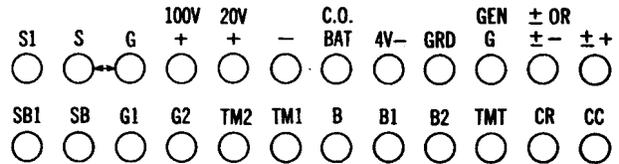
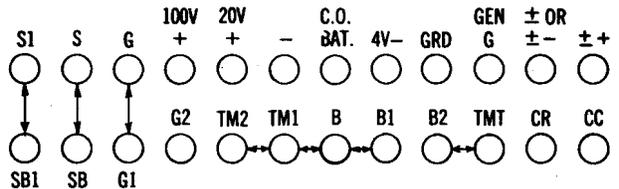
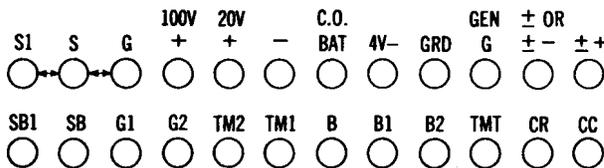

Fig. 1 - Step-by-Step Offices
Fig. 2 - Panel and 24-Volt Manual Offices
Fig. 4 - Multiple Magneto Offices
2.04 Check the sleeve and ground binding post strapping to see that proper connections are made for the various conditions as shown in Figs. 1, 2, 3 and 4. No strapping between these binding posts is required in non-multiple type magneto offices. The strap connecting binding posts S-1 and SB-1, Figs. 2 and 3 or S and S-1, Fig. 4, is required only to test for crosses between lines. When the local test cabinet is permanently located, straps may be soldered to the binding post terminals underneath the panel.